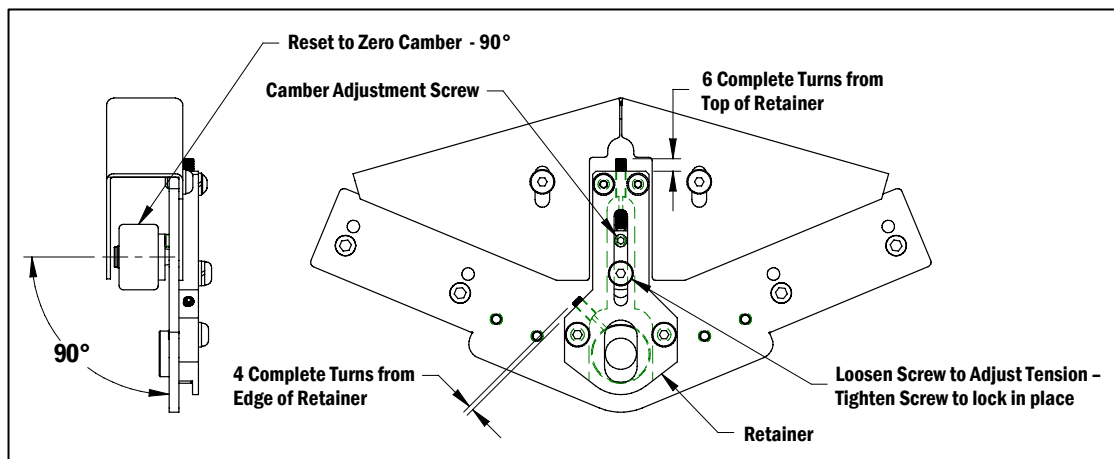

Figure 17
d. Reset the Z-Track idlers and full width idlers in their neutral position. This process will reset all previous adjustments so that the new belt can be tracked properly. This is accomplished by threading out the Z-Track tension adjustment screw six complete turns from flush with the top of the retainer, threading out the full width idler tension adjustment screw four complete turns from flush with the edge of the retainer, and leveling out the Z-Track idler camber (Figure 17).